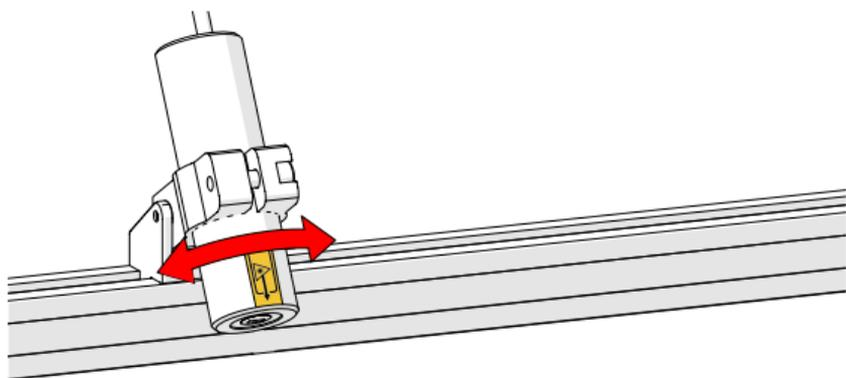

Fig. 22 - Loosen Optical Guide screw
2. Rotate the barrel of the Optical Guide to achieve the desired laser beam angle (*Fig. 22*).